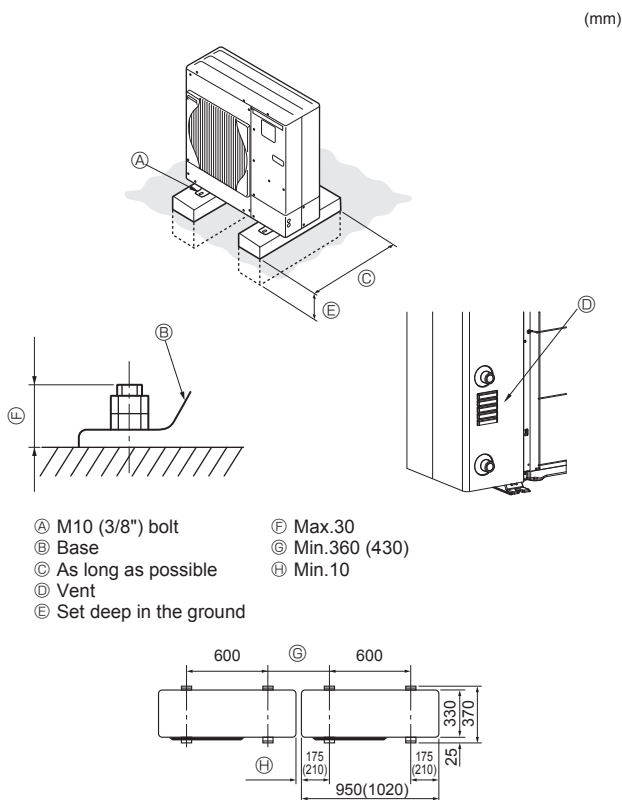

Fig. 3-1
- Be sure to install the unit in a solid, level surface to prevent rattling noises during operation. (Fig. 3-1)